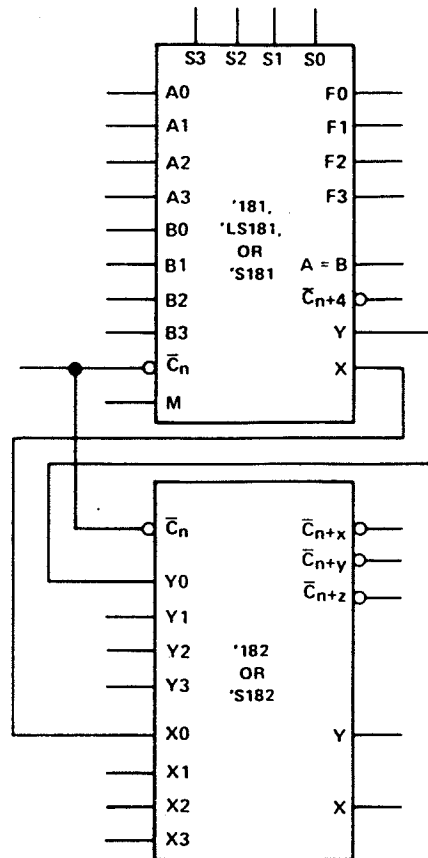

FIGURE 2
The '181, 'LS181, and 'S181 together with the '182 and 'S182 can be used with the signal designations of either Figure 1 or Figure 2. The inversion indicators (O) and the bars over the terminal letter symbols (e.g.,  $\bar{C}$ ) each indicate that the associated input or output is active with respect to the selected function of the device when that input or output is low. That is, a low at  $\bar{C}$  means "do carry" while a high means "do not carry".
The logic functions and arithmetic operations obtained with signal designations of Figure 1 are given in Table 1; those obtained with signal designations of Figure 2 are given in Table 2.